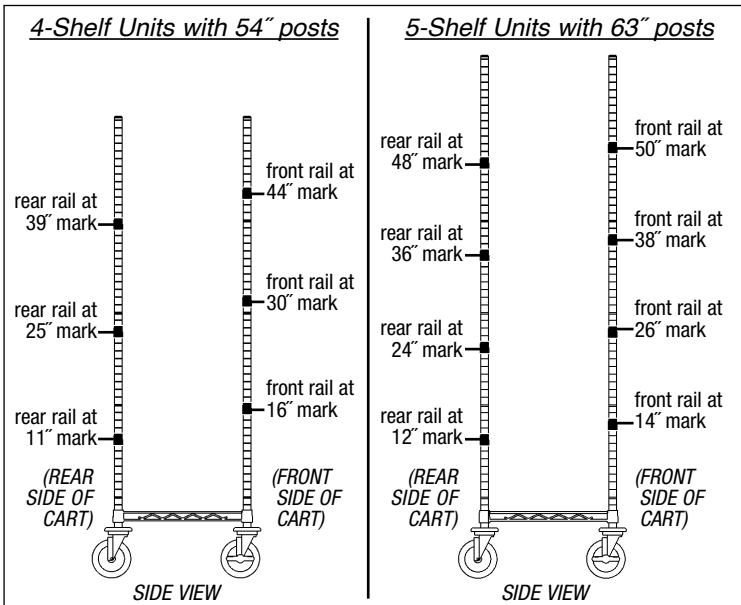

figure 3
- a. Assemble one rail at a time. Refer to *figure 3* for location of split sleeves and rails. Snap split sleeves onto number on each post (2 sets of split sleeves per rail).
- c. Repeat *Steps 3a* and *3b* to assemble all rails. Refer to *figure 3* for location of split sleeves and rails.